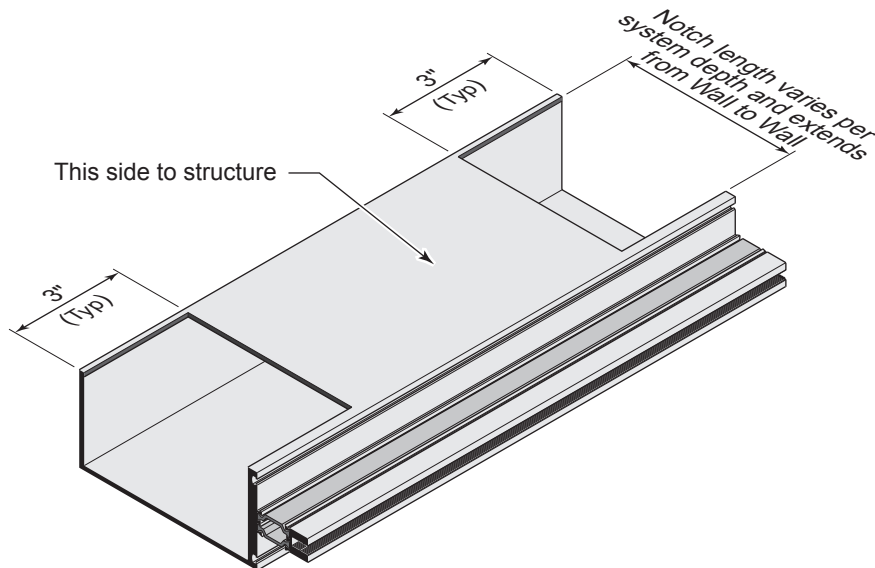

Fig. 28.2
- A. Notches must be cut in the head and sill members to provide clearance for the shear clips. See **Fig. 28.2** for proper notch size.